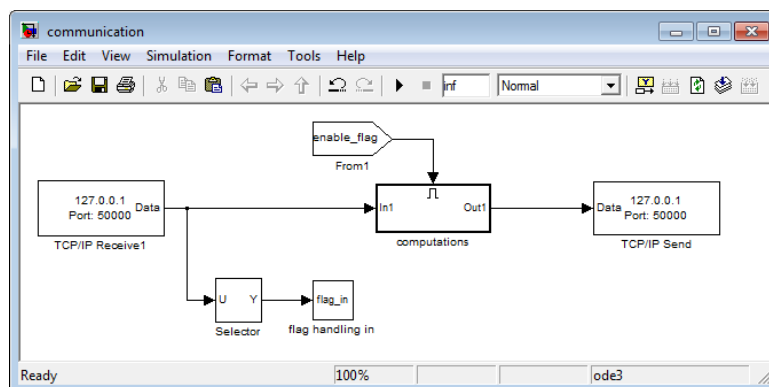

Figure 3.67: TCP/IP communication with Matlab/Simulink (do not change this structure)
- (1) Start Matlab/Simulink and open the file `communication.mdl` in the folder “examples/TCPIP”, see figure 3.67.